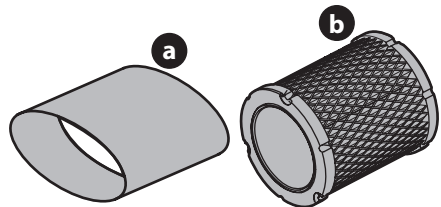

Figure 13
4. Remove the foam pre-filter (a) from around the paper air filter (b) (Figure 13). Replace paper element when dirty or damaged. Clean foam element or replace when damaged.